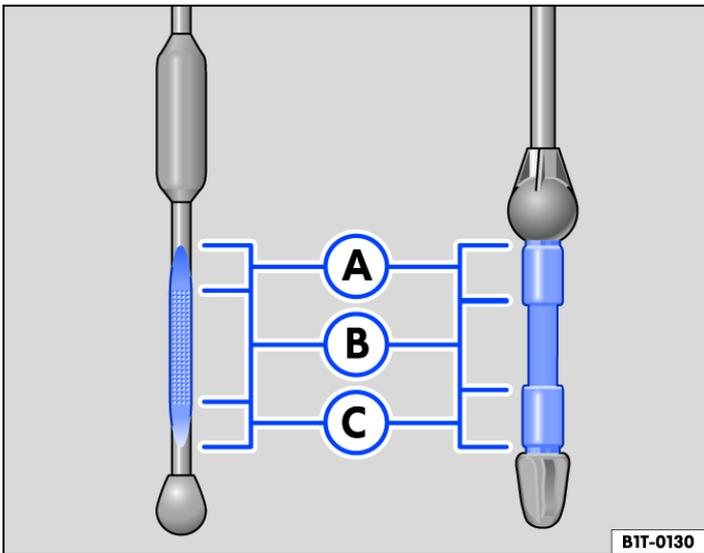
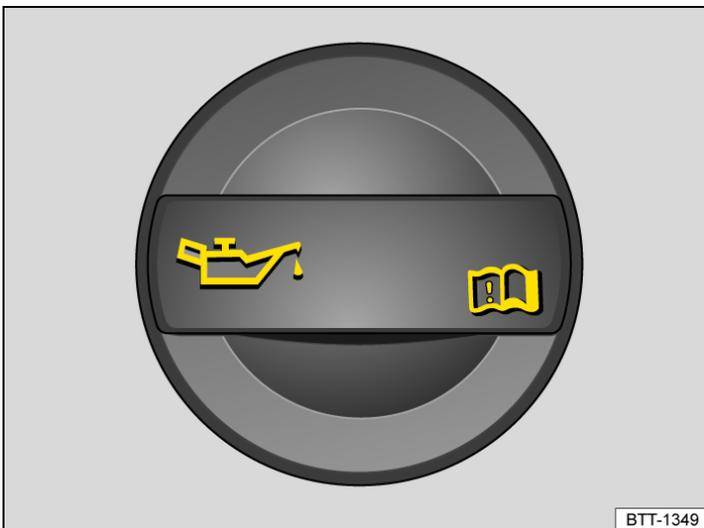

Fig. 1 Oil dipsticks with markings (variants).
Fig. 2 In the engine compartment: engine oil filler cap (illustration).
Key to → Fig. 1:
4. Identify the engine oil filler cap and oil dipstick. The engine oil filler opening can be recognised by the symbol  on the cap and the oil dipstick has a coloured handle → Fig. 1. If you cannot find the cap and oil dipstick, please contact a qualified workshop.
7. Pull out the oil dipstick again and read the engine oil level on the dipstick as follows → *Fig. 1*:
- (A) Do not fill engine oil → ⚠. Continue with step 16.
- (B) Engine oil level OK. The engine oil may be filled up to the upper limit of this area, for instance, if the engine is subjected to high loads. Continue with step 8 or 16.
- (C) Engine oil level too low. It is essential to fill engine oil. Continue with step 8.
9. Unscrew the engine oil filler opening cap → *Fig. 2*.